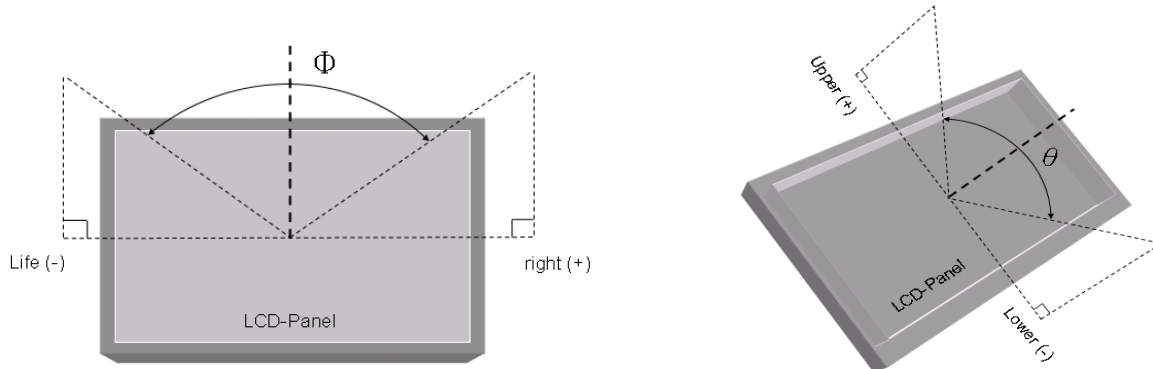

Fig8-2 Definition of Viewing Angle
*4) Definition of Viewing Angle(θ, ψ), refer to Fig8-2 as below :